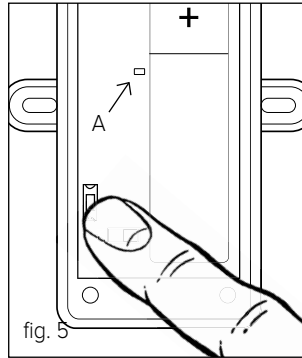

fig. 5
- Press the button on the outdoor sensor's pcb until the red led A turns on for 2 seconds (fig. 5). Now press the button again to send the temperature measurement to the receiver.